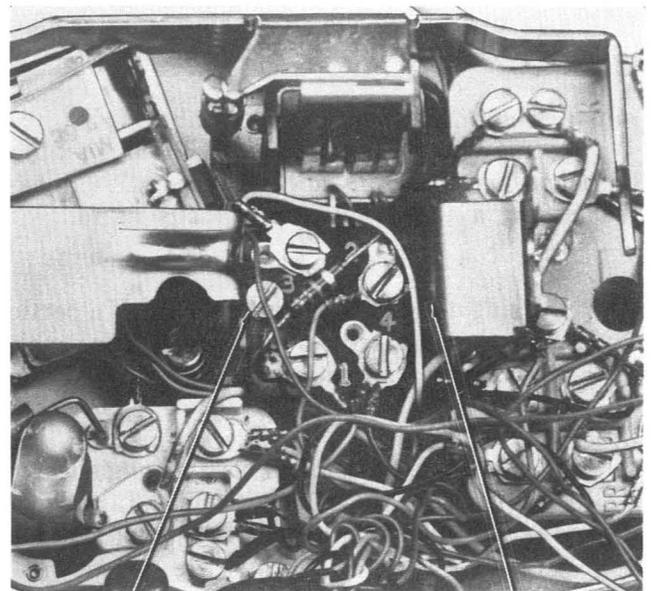
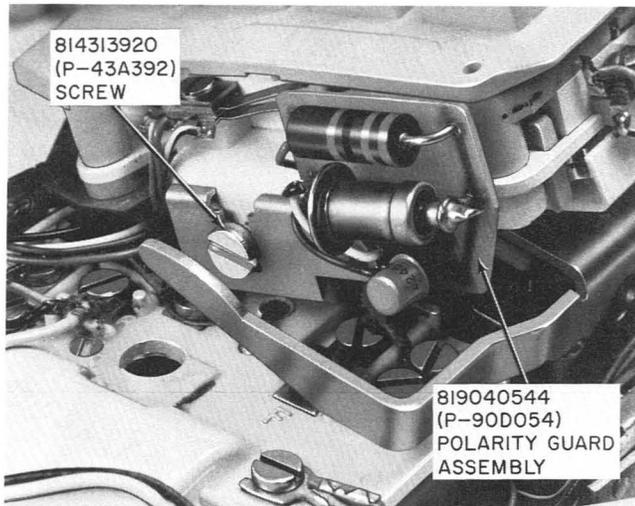

Fig. 4—▶Installing Terminal Board in PRINCESS Telephone Set◀
Fig. 5—Polarity Guard Mounted in PRINCESS Telephone Set
- Add Fig. 4, 8, 10, 12, and 14
- (3) Insert tabs of terminal board into notches in right-hand dial mounting bracket and secure to retainer Fig. 4.
- (4) Connect polarity board in accordance with Table I.
- (5) Reinstall dial on mounting bracket, securing the guard assembly mounting bracket under the right-hand dial mounting screw (Fig. 5).
- (6) Reinstall housing.